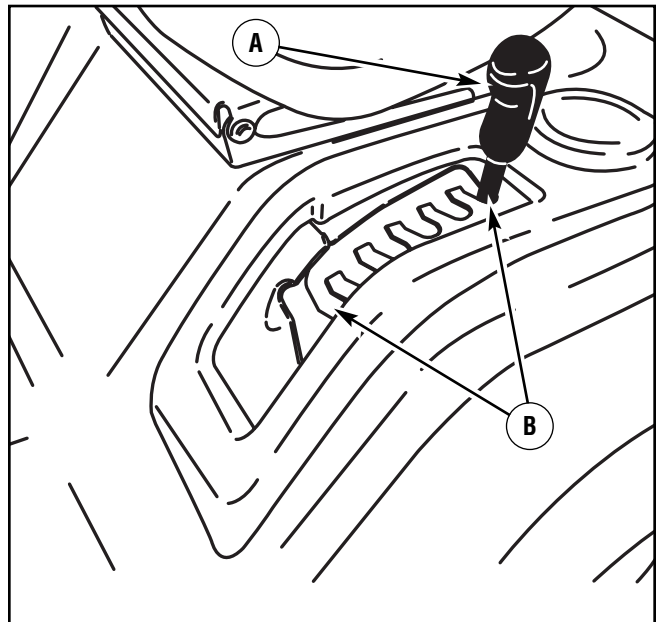

Figure 41: Cutting position
7. Raise the deck lift lever from the LEVEL ADJUSTMENT position to a CUTTING HEIGHT position (Figure 41).